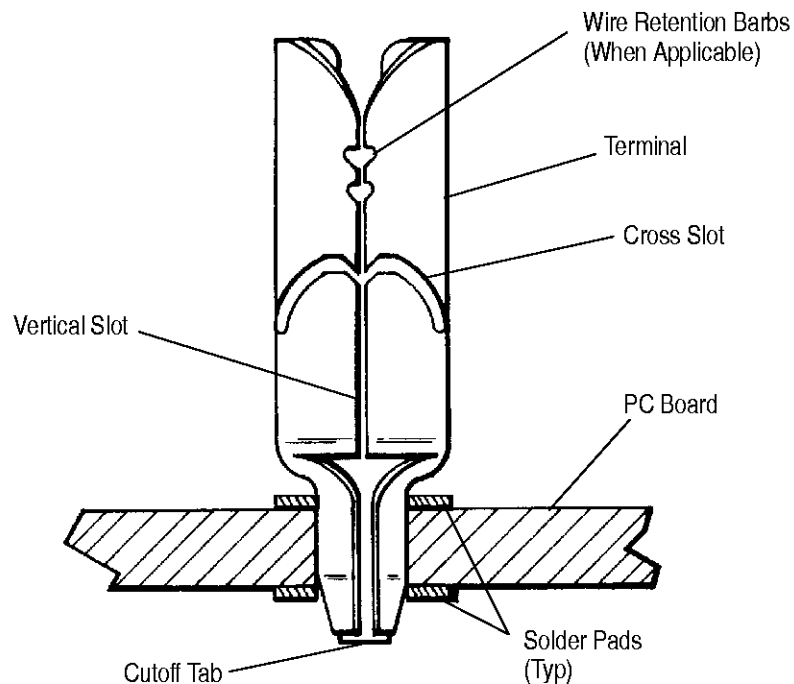

Figure 1
Basic terms and features of components are provided in Figure 1.
- Added solder pad to top of pc board in Figure 1